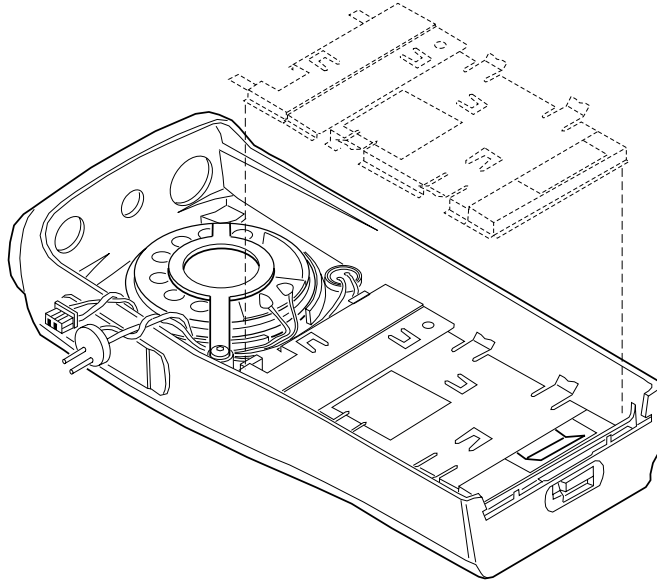

Figure 6-16. Keyboard Retainer Re-assembly
1. Insert the flex cable through the slot at the bottom of the keyboard retainer (Figure 6-16).
2. Insert the two top tabs of the keyboard retainer into the two tab retainers located on each side of the speaker in the front housing (Figure 6-16).